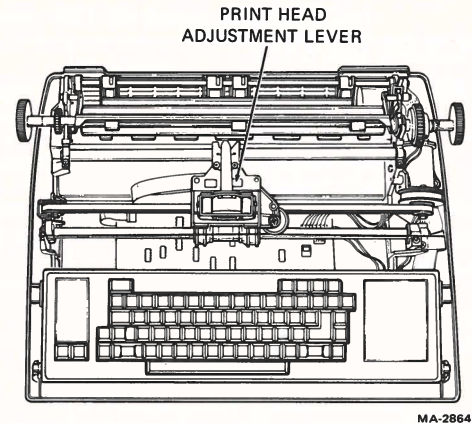

Figure 2-18 Carriage Assembly Removal
6. Remove the rear carriage shaft by removing the two (8-32) Phillips-head screws that secure at each end of the front carriage shaft (Figure 2-18).
7. Loosen the two (8-32) Phillips-head screws at each end of the front carriage shaft (Figure 2-18).